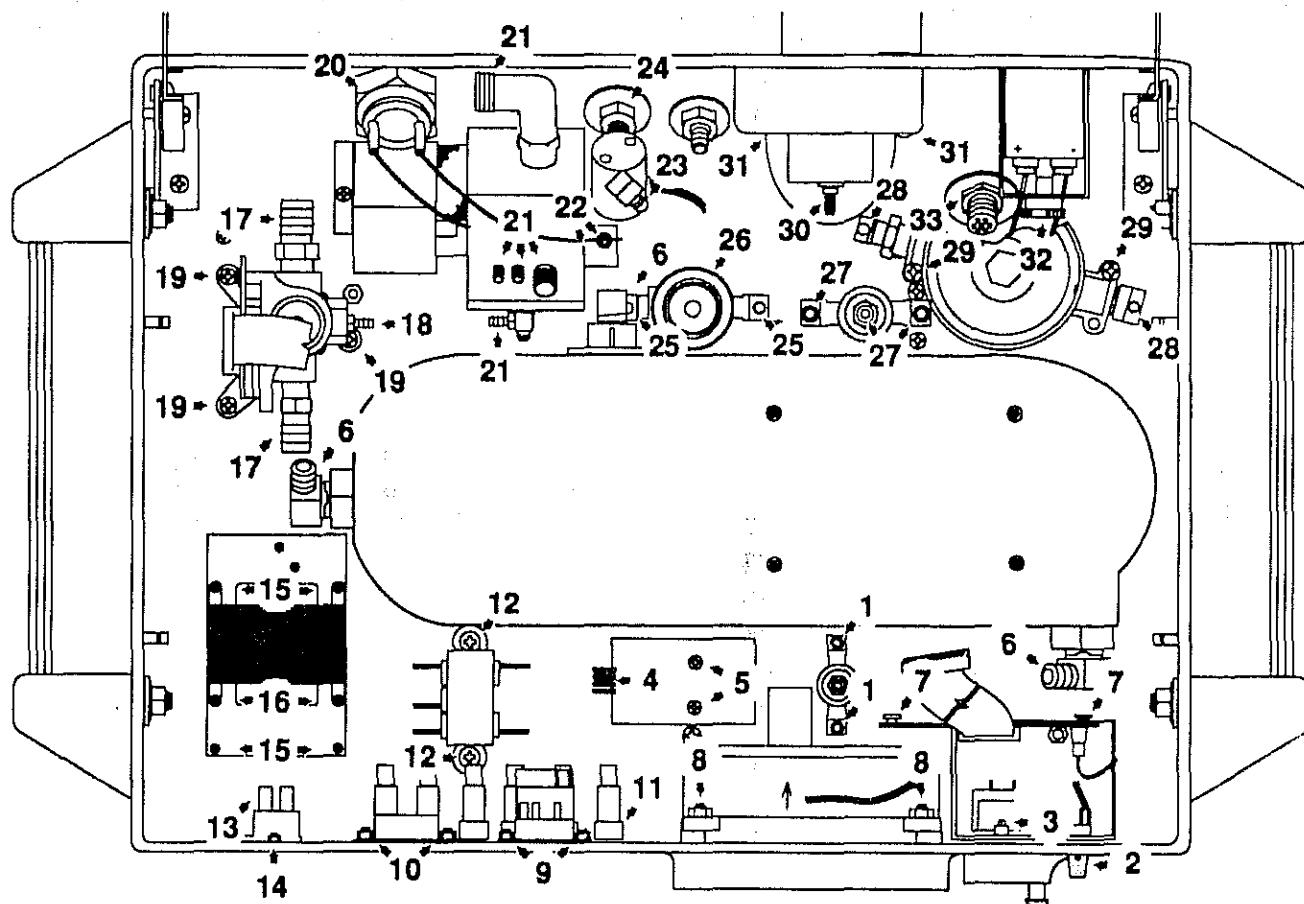

Figure 8-6
- After marking for correct orientation, remove connector J45 from the PCB (Figure 8-6, Ref. 4).
- Remove the two phillips screws securing the PCB to the ventilator chassis (Figure 8-6, Ref. 5).
2. Remove the three pneumatic connections to the Accumulator Assembly (Figure 8-6, Ref. 6).
2. Remove the 4 fan mounting screws (Figure 8-6, Ref. 8).
2. Remove the two phillips screws (Figure 8-6, Ref. 1) securing the mounting bracket to the chassis of the ventilator.
2. Remove the Alarm Loudness knob (Figure 8-6, Ref. 2) using an allen wrench.
3. Remove the two outlet mounting screws (Figure 8-6, Ref. 10) and remove the outlet from the inside of the ventilator.
3. Remove the two mounting screws (Figure 8-6, Ref. 3) using an allen wrench.
5. Using an allen wrench, remove the mounting screws and nuts from the Power Entry Module (Figure 8-6, Ref. 9).
3. Using an allen wrench, remove the mounting screws and nuts from the receptacle (Figure 8-6, Ref. 10).